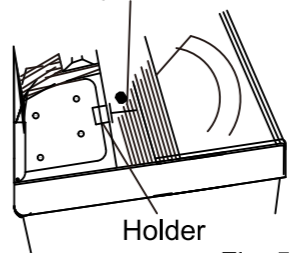

Fig. 5
2. Push the "Holder" pressing the upper section of the battery case toward the panel as shown in Fig.5. The battery case will come up.